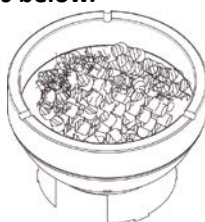

Figure 13
**STEP 1** Kamado Grill is easy to start. Locate the fire grate inside the firebox as shown in Figure 13. Add enough charcoal that starts just below the holes in the wall of the fire box, with the peak of the mound just below the upper edge of the fire ring. (See Figure 13) Please follow important tips of adding charcoal as below.